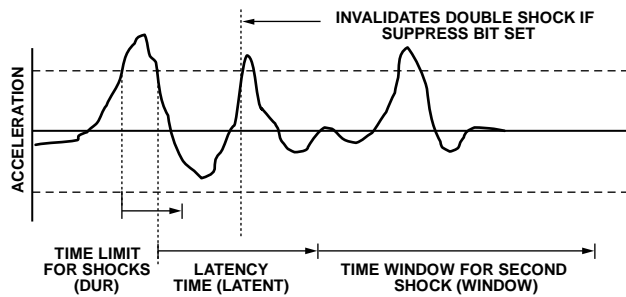

Figure 34. Double Shock Event Invalid Due to High g Event When the Suppress Bit Is Set
- If the suppress bit in the SHOCK_AXES register (Bit D3, Address 0x2A) is set, any acceleration spike above the threshold during the latency time (set by the latent register) invalidates the double shock detection (see Figure 34).